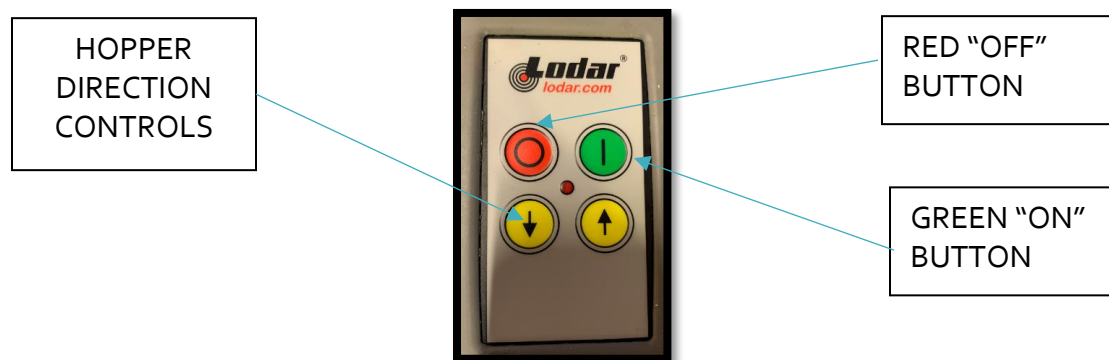

Figure 26: Remote Transmitter
- a. Push the green button to turn the remote ON (Figure 26)
- b. Push the yellow directional buttons (marked with arrows) located below the ON/OFF buttons in the direction you want the hopper to move (Figure 26).